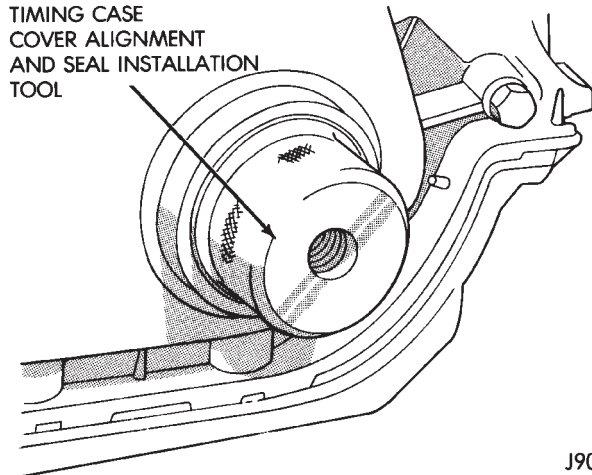

Fig. 51 Timing Case Cover Alignment and Seal Installation Tool 6139
- (6) Install the crankshaft oil slinger.
- (7) Tighten the camshaft sprocket bolt to 108 N·m (80 ft. lbs.) torque.
- (8) Check the valve timing.
- (9) Coat both sides of the replacement timing case cover gasket with gasket sealer. Apply a 3 mm (1/8 inch) bead of Mopar Silicone Rubber Adhesive Sealant, or equivalent to the joint formed at the timing case cover and cylinder block.
- (10) Position the timing case cover on the oil pan gasket and the cylinder block.
- (11) Place Timing Case Cover Alignment and Seal Installation Tool 6139 in the crankshaft opening of the cover (Fig. 51).
- (12) Install the timing case cover-to-cylinder block bolts. Install the oil pan-to-timing case cover bolts.
- (13) Tighten the 1/4 inch cover-to-block bolts to 7 N·m (60 in. lbs.) torque. Tighten the 5/16 inch front cover-to-block bolts to 22 N·m (192 in. lbs.) torque. Tighten the oil pan-to-cover 1/4 inch bolts to 14 N·m (120 in. lbs.) torque. Tighten the oil pan-to-cover 5/16 inch bolts to 18 N·m (156 in. lbs.) torque.
- (14) Remove the cover alignment tool and install a replacement oil seal into the cover.